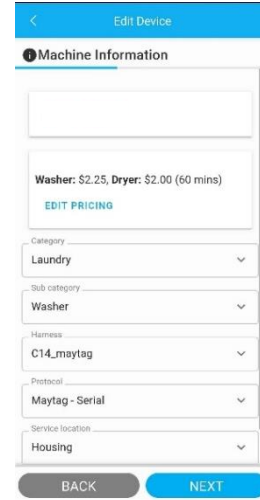

Figure 27
7. The **Machine Information** page will appear (**Figure 27**). Here you can make changes to following fields: